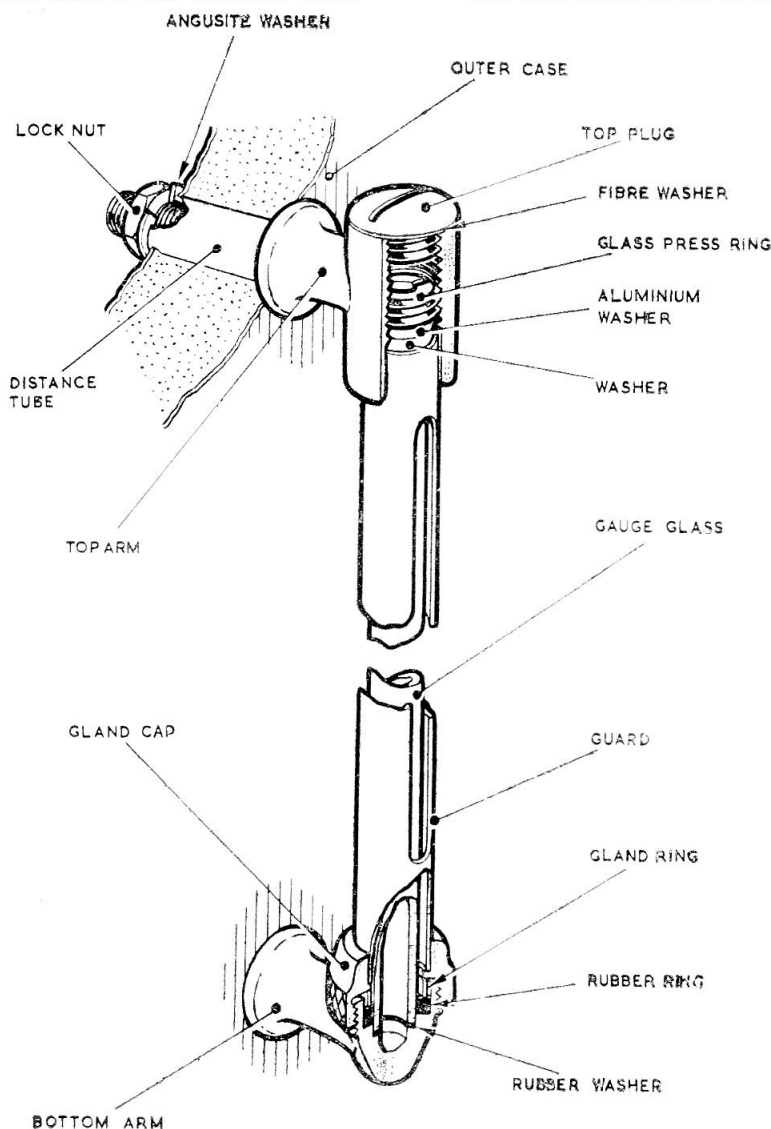

Fig. 5. Water contents gauge
12. The water contents gauge, which is shown partially sectioned in fig. 5, may be renewed by removing the inner locknuts from the top and the bottom arms and then withdrawing the assembly. The gland cap on the new contents gauge should be slackened off before attempting to fit the gauge to the urn, when fitting the gauge ensure that the screwed shanks of the top and the bottom arms pass through the distance tubes inside the inter-compartment space. Bosswhite jointing com-